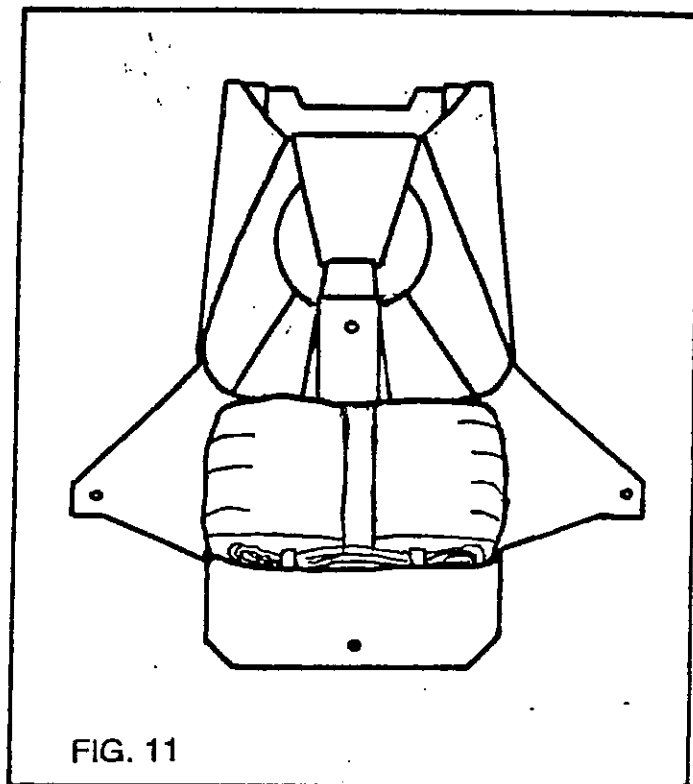

FIG. 11
10) Insert the pullup cord thru the container locking loop, then lift the bag straight back over the reserve container and set it in the main "pack tray". Lay the main risers flat against the sides of the reserve container and close the riser covers over them. See FIG. 11. (Be sure that the line stows of the main bag are always toward the bottom of the container. If the bag is turned so that the line stows are toward the top, it may require more force for the pilot chute to extract the bag from the container.)